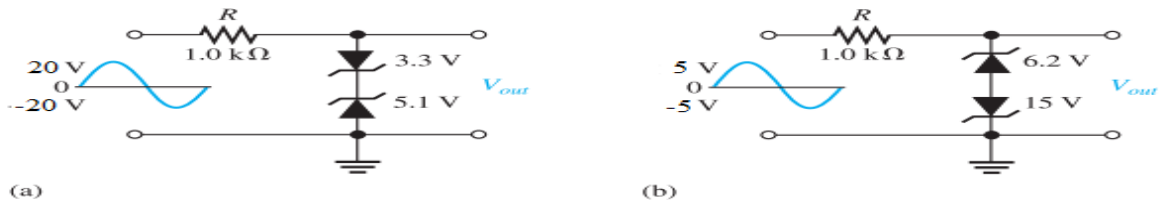

Figure 5
8. Draw the output voltage ( $V_{out}$ ) for each zener limiting circuit in Figure 5.